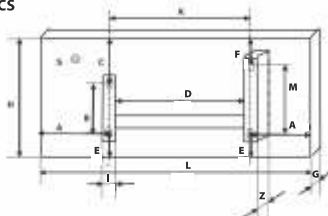

Fig. 2
Overall dimensions of the convector heater according to Fig. 2 are shown in Table 2
Installation dimensions of the convector heater according to Fig. 2 are shown in table 3.
3. In accordance with Fig. 2,4 and tables 2,3 specify a place for convector installation with observance of minimum distances from objects and minimum distance from the floor.